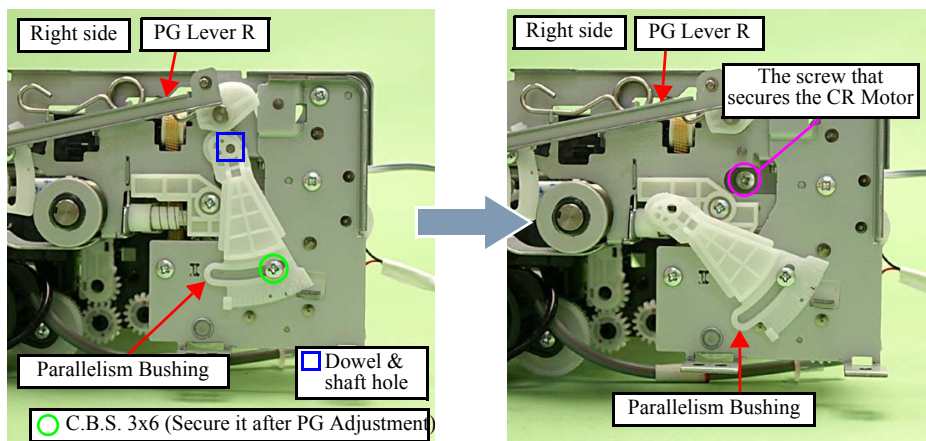

Figure 4-125. Removing the CR Motor (2)
3. Loosen the screw (x1) that secures the Parallelism Bushing. (See Fig. 4-125.)
4. Lift the PG Lever R and disengage the dowel of the Main Frame from the shaft hole of the Parallelism Bushing. (See Fig. 4-125.)